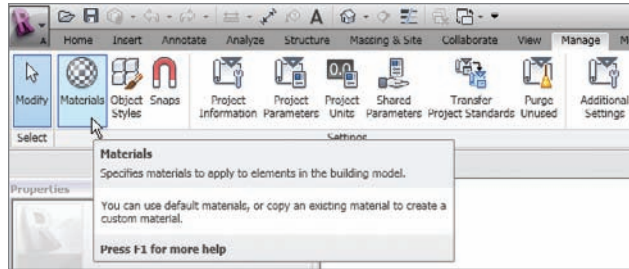

FIGURE 9.69 Choosing the Materials button on the Manage tab
1. On the Manage tab, click the Materials button, as shown in Figure 9.69.